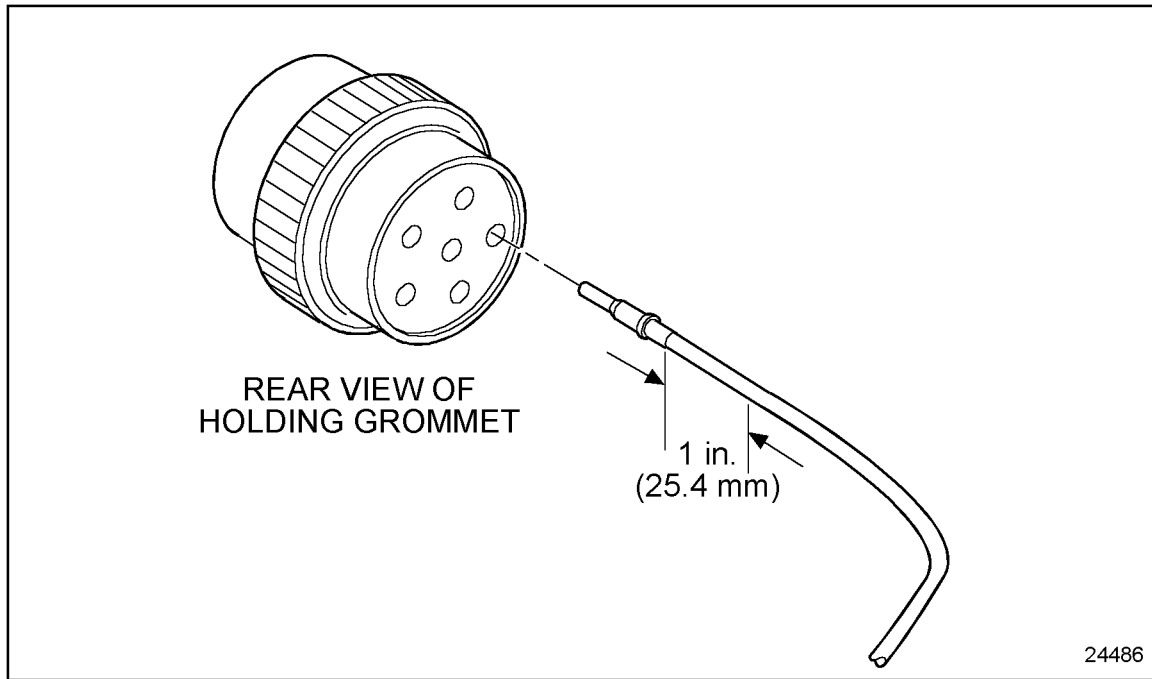
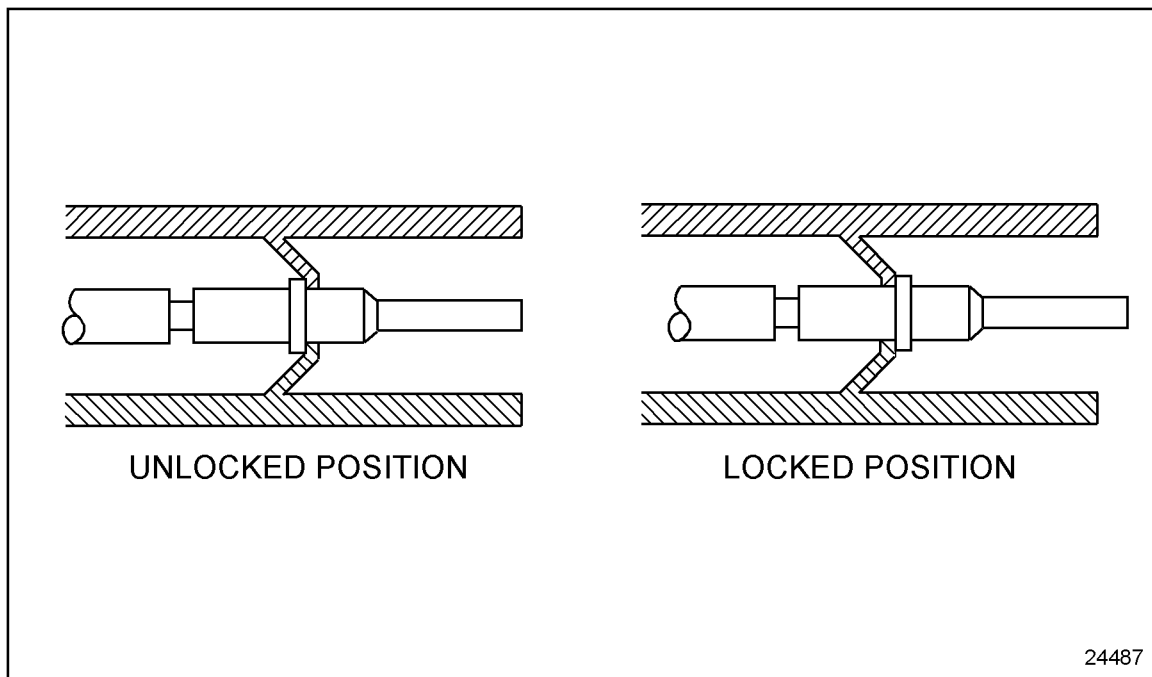

Figure 8-15 Pushing Contact Into Grommet
Figure 8-16 Locking Terminal Into Connector
6. Hold the connector with the rear grommet facing you. See Figure 8-15.
7. Push the contact into the grommet until a positive stop is felt. See Figure 8-15. A slight tug will confirm that it is properly locked into place. See Figure 8-16.